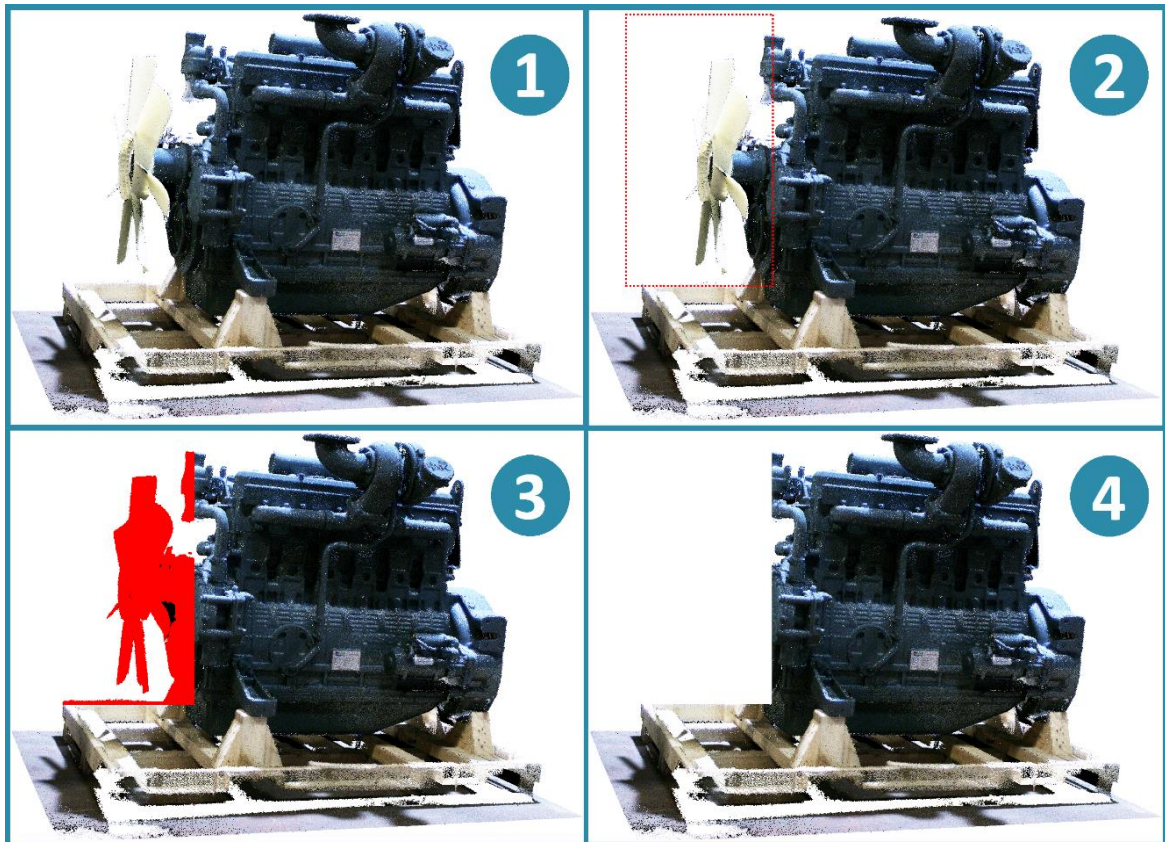
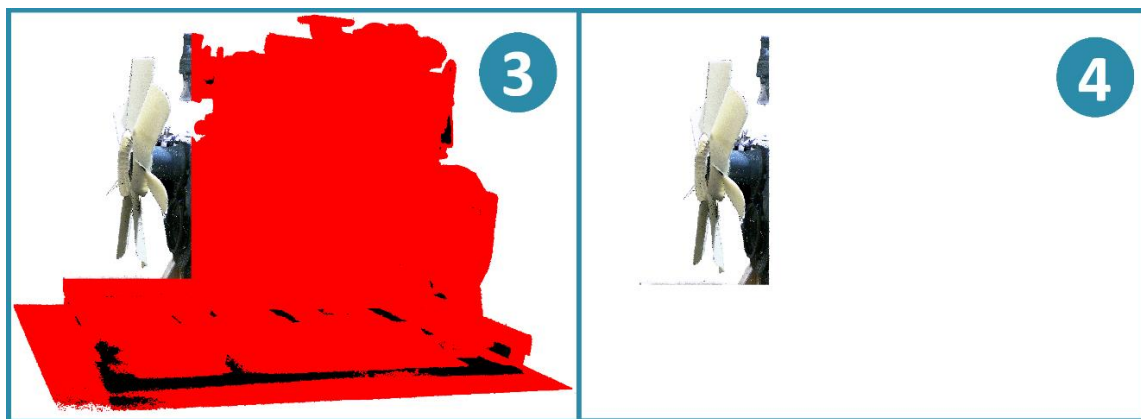

Figure 113 – Selection toolbar – Rectangle Shape Select and Cut
Figure 117 – Selection toolbar – Rectangle Shape Select and Invert
A presentation of this tool's action is provided in Figure 113 below:
❶ – is the free-drawn shape over the object (same item used as in Figure 113 above).
❷ – is an emphasis of the selected free-drawn portion (following the above drawing step).
For example – using the **Rectangle** select and cut tool presented in Figure 113 (page 111 above), while subsequently selecting the **Invert** command-button, causes the selected portion (marked as ③ in Figure 113 and in Figure 117 below) and the resulting cutout (marked as ④ in Figure 113 and in Figure 117 below) to look like: